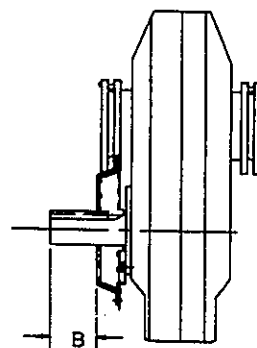

Figure 9
2. Remove every other bolt in the input shaft seal carrier and set aside. Refer to Figure 9 for bolts to be removed.
4. Place safety screen on shaft against straps. Place fan blade on input shaft with fan blade edge distance "B" (Figure 9 and Table 5) from end of shaft. Install setscrews in fan blade hub and tighten securely.
2. Place fan blade on input shaft with fan blade edge distance "B" (Fig. 9—Table 5) from end of shaft. Secure fan blade with set screws supplied.